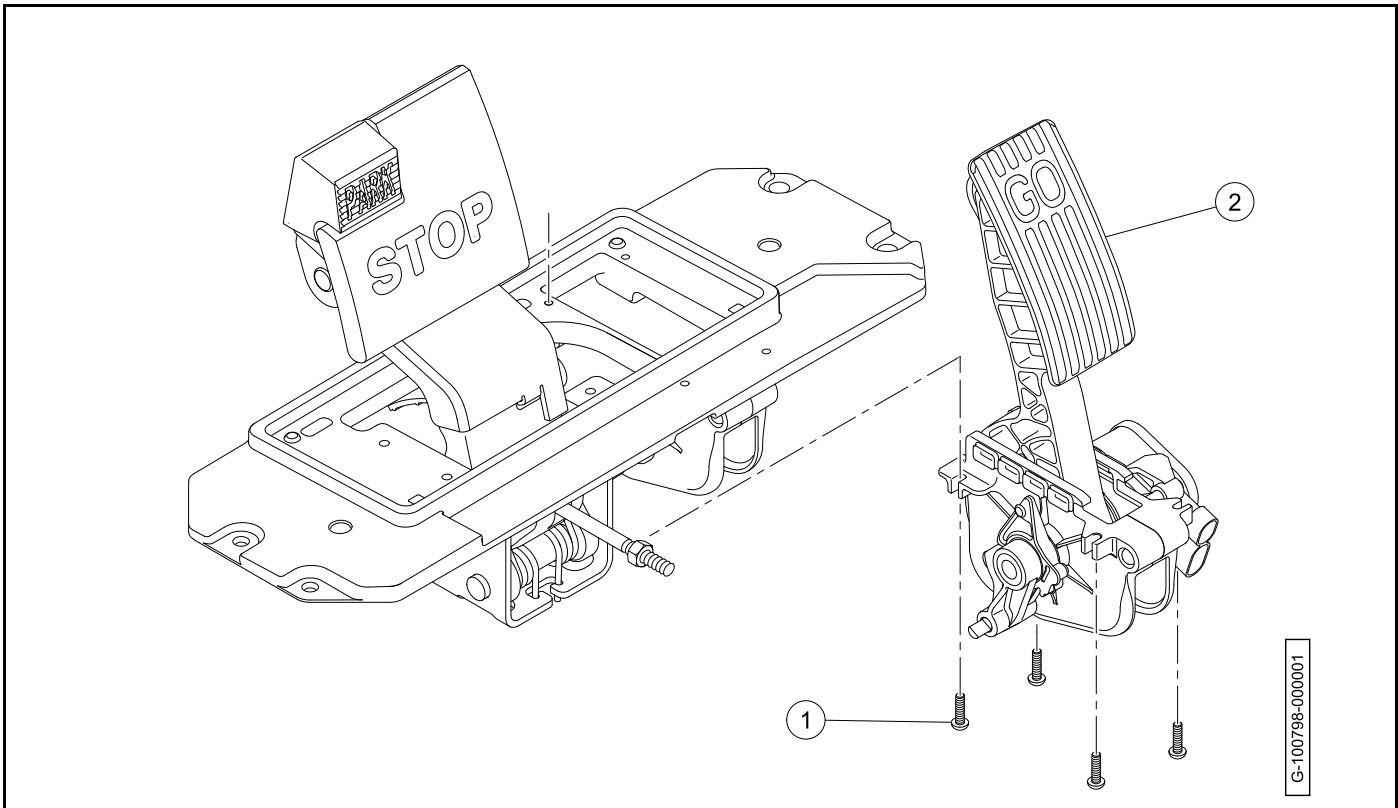

Figure 5-10 Electric vehicle shown. Gasoline vehicle is typical.
3. Remove the screws (1) (**Figure 5-10**).
4. Turn the accelerator pedal assembly (2) and remove through bottom of pedal group mounting plate.
1. Install the accelerator pedal assembly (2) through bottom of pedal group mounting plate (**Figure 5-10**).
3. Install the screws (1). Tighten the screws to 38 lb·in (4.3 N·m).